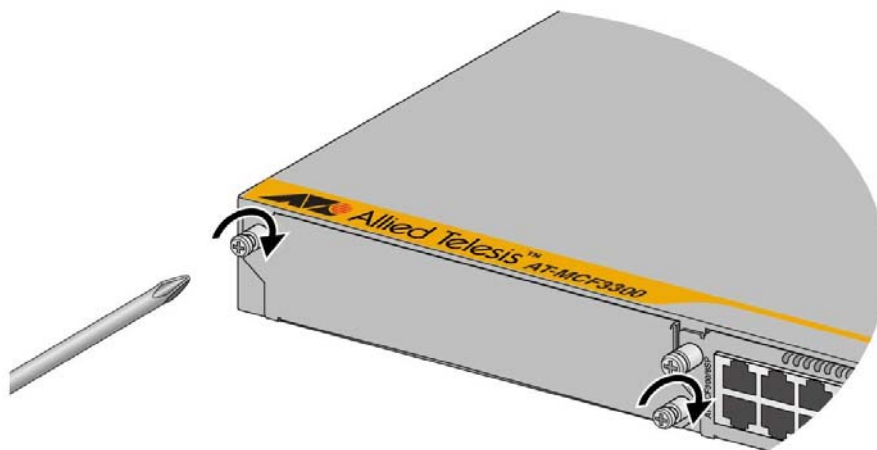

Figure 65. Installing the Slot Cover over a Media Converter Slot
7. If you are not installing a new module, position the slot cover and secure it by tightening the two captive screws. Refer to Figure 65 on page 108.